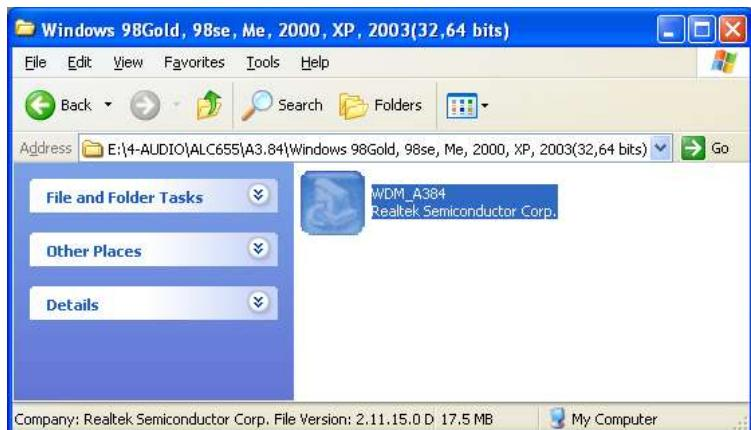

Figure 7-20: Locate the Setup Program Icon
Step 4: Double-click the WDM_A384 program icon in Figure 7-20.